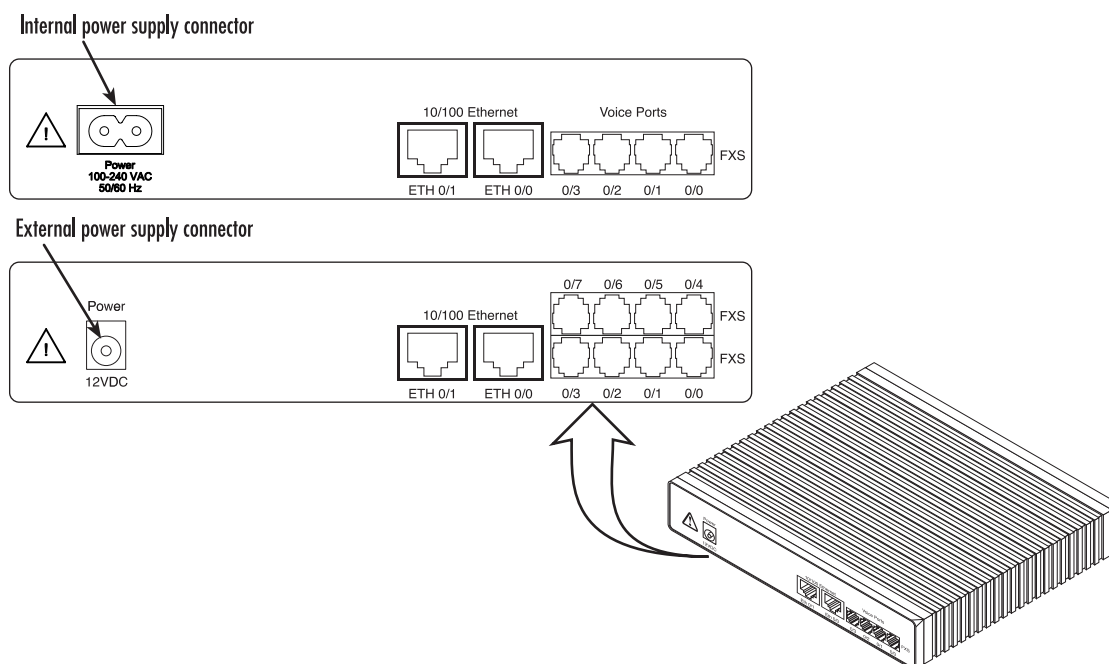

Figure 19. Power connector location on rear panel
1. If your unit is equipped with an internal power supply, go to step 2. Otherwise, insert the barrel type connector end of the AC power cord into the external power supply connector (see figure 19).
2. Insert the female end of the power cord into the internal power supply connector (see figure 19).